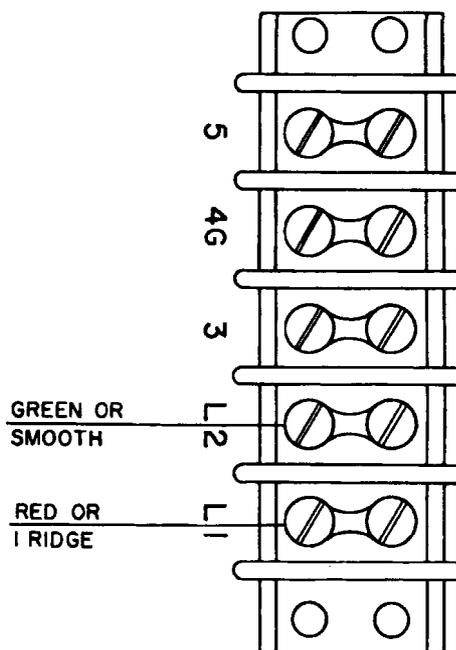

Figure 5. Terminal strip connections for bridged ringing (non-SATT).
**Bridged ringing.** This telephone is shipped wired for bridged ringing as shown in figure 28. Connect the line wires as shown in figure 5.